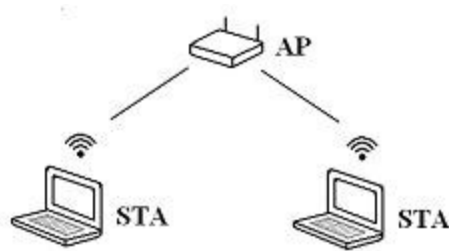

FIGURE 6-1. Infrastructure network
The NL241 can be configured to join an already established infrastructure wireless network (WLAN) (see FIGURE 6-1 (p. 16)). An infrastructure wireless network is one in which all devices or stations (STA) communicate through an access point (AP). This AP will typically connect the wireless network (and the NL241) to a larger wired company or home network and/or the internet. The AP device also controls and routes all the traffic on the wireless network. Once the NL241 has successfully joined the existing wireless network, it can communicate with other devices on the network.